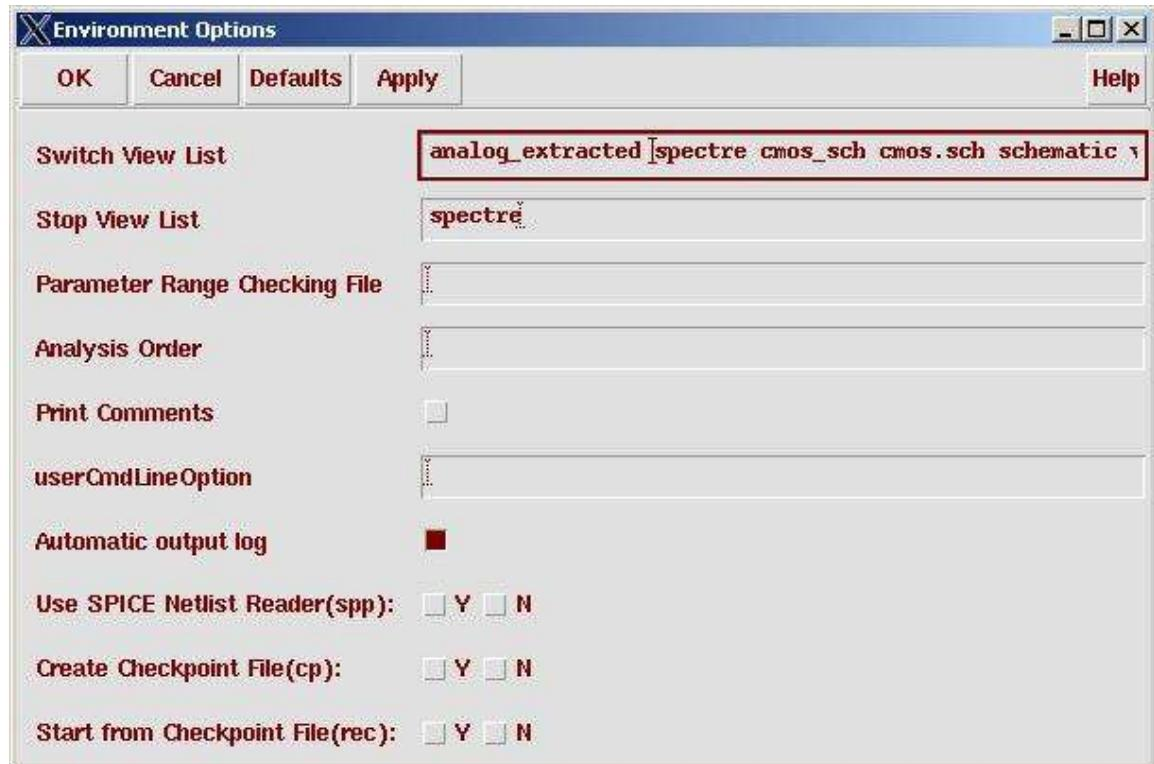

Figure 7.15: Adding **analog\_extracted** to the **Switch View List**
**analog\_extracted** to the front of the **Switch View List** list. See Figure 7.15. This will tell the netlister to look for the **analog\_extracted** view first to find the transistor netlists for each cell.